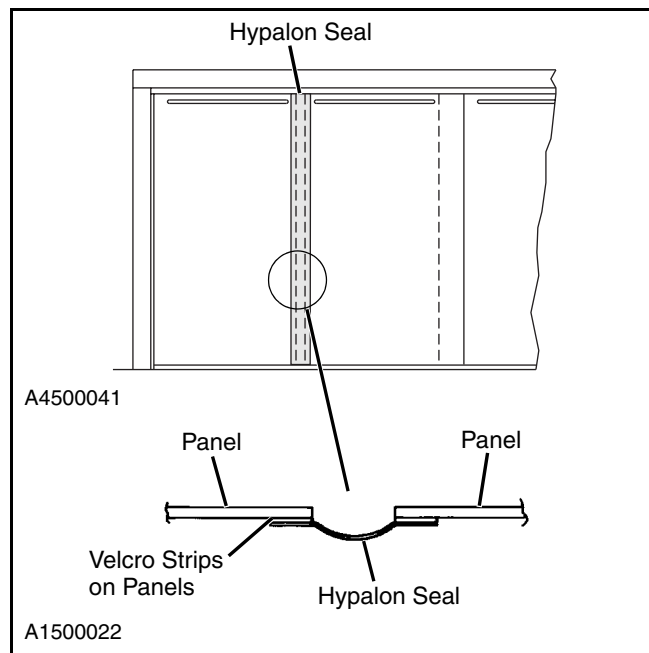

Figure 32
2. Attach the Hypalon seals to the edges of the Puralon panels. The Velcro™ strips on the panels should match the strips on the Hypalon seals. Start installing the seal at the bottom and work up. (See Figure 32.)